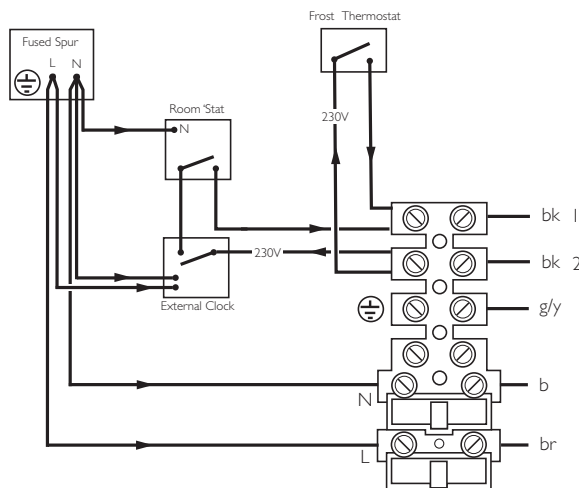

Fig. 61
**NOTE:** An external frost thermostat cannot be used in conjunction with with the integral timer. The integral timer can be replaced with the blanking plate supplied in the installation kit, and wiring connected as in Fig. 61.